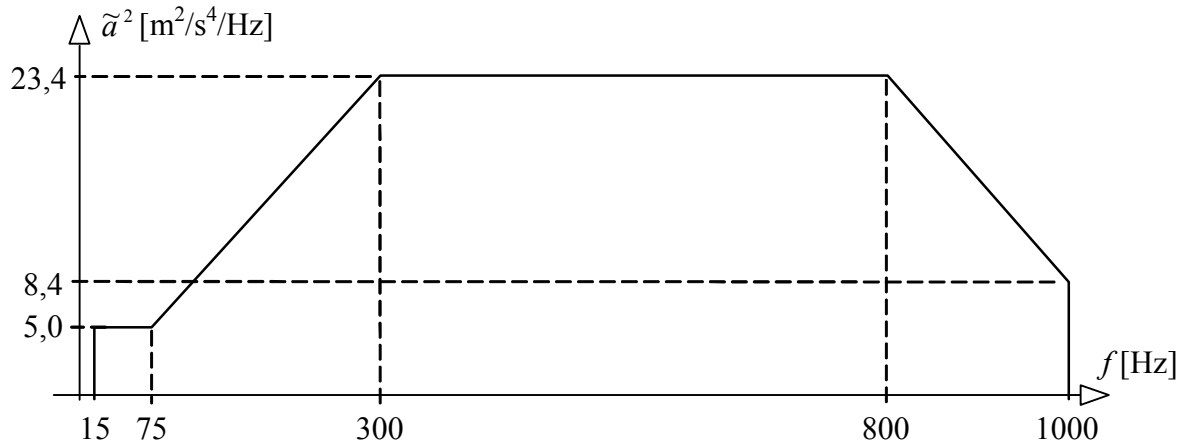

Figure 2 Acceleration power density spectrum used during test.
Suppose a microelectronic system developed for aeronautic applications is subject to a vibration test aiming to investigate its ability to operate in a vibrating environment. The vibration environment is specified in terms of an acceleration power density spectrum, i.e. the mean square value, see exercise 52, of the acceleration is given as function of frequency, see Figure 2.
- The `quad` command requires the integrand to be specified as a function providing a vectorial output y containing integrand values for the vectorial input x . Write a function M-file that calculates the values of an arbitrary piece-wise linear function, see for instance the power density spectrum function in figure 2 above.
- Try the code on the spectrum in Figure 2.